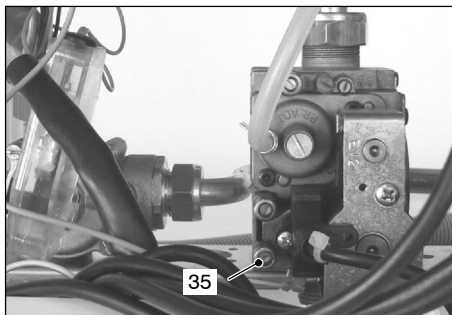

Fig. 7.7
- 2 Loosen the internal screw on the Inlet Pressure Test Point 35 (Fig. 7.7) of the Gas Valve and connect a pressure gauge using a suitable hose.
- 8 Disconnect the pressure gauge and close the Inlet Pressure Test Point 35 (Fig. 7.7).